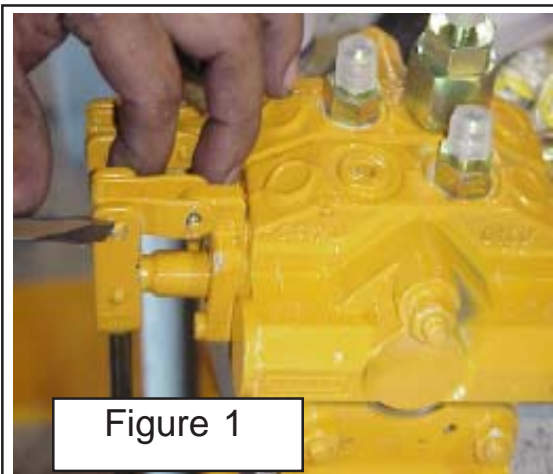

Figure 1
4. Disconnect Motor Case Drain Hoses. The hoses for the motor Case drain will be disconnected at the tank but can be left attached to the motor (See Figure 1 & 2). Cap these hose after disconnecting them.
5. Disconnect the Pump Suction Hoses. The suction hose to the Auxiliary pump is best to remove it completely. Disconnect it at the pump end and then the tank end. Cap the pump and the tank immediately after removing hose to keep contamination out of the oil. The suction hose(s) to the Main Pump(s) remove the fitting at the pump and cap the hose(s) and the pump(s) (See Figure 1 & 2)
1. Items to be removed in preparation to remove pump mount weldment, Main Pump (Single or Tandem) some hoses will need to be disconnected and/or will need to be removed in order to remove the pump(s). The pump will need to slide back away from pump mount weldment approx 2". Some hoses may not have enough length to the to allow the pumps to slide outward. See Pump Remove and Replace instruction section, if hoses are to be disconnected see tank removal and replace section. It is recommended oil be drained before disconnecting any hoses (See Tank Remove and replace section). **IMPORTANT! Cap all hydraulic components immediately after disconnecting them, DO NOT leave hydraulic system open. DO NOT work on hydraulic system under dirty conditions. Hydraulic System MUST be cleaned before disconnecting hoses and/or components. Work area and tools MUST be clean at all times. (See Figure 1 & 2)**
1. Remove standard control Handles. When using remote control cables and handles the standard handles must be removed and discarded. This is done by removing the C-Clips and pins that hold the handles to the valve body and the C-clips and pins that hold handles to the spools. (See Figure 1)